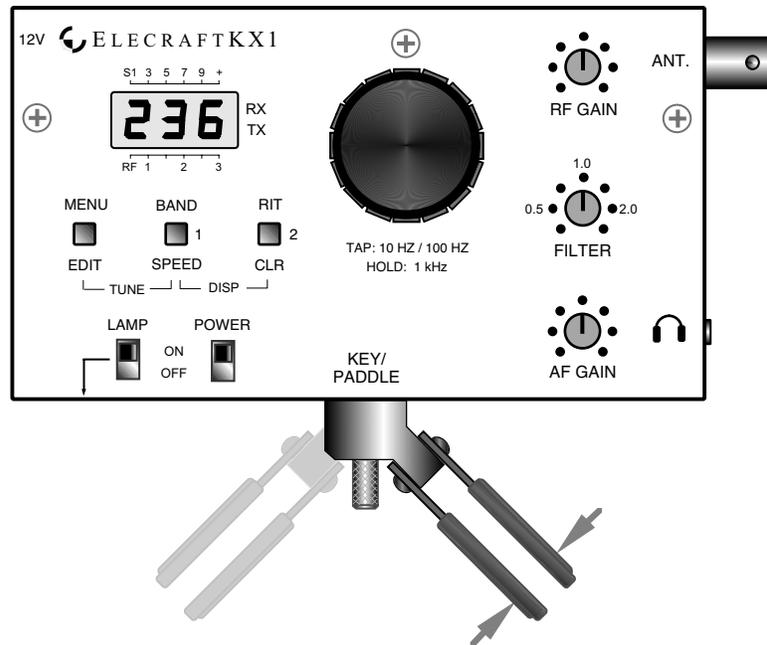

Figure 8
- Plug the paddle into the transceiver's KEY/PADDLE jack and orient it for either left- or right-handed operation (Figure 8). The chassis has an integral nut that accepts the thumb screw. Thread the thumb screw through the uppermost hole in the bracket.
- Test the paddles, pressing them at approximately the points indicated by the arrows in Figure 8.